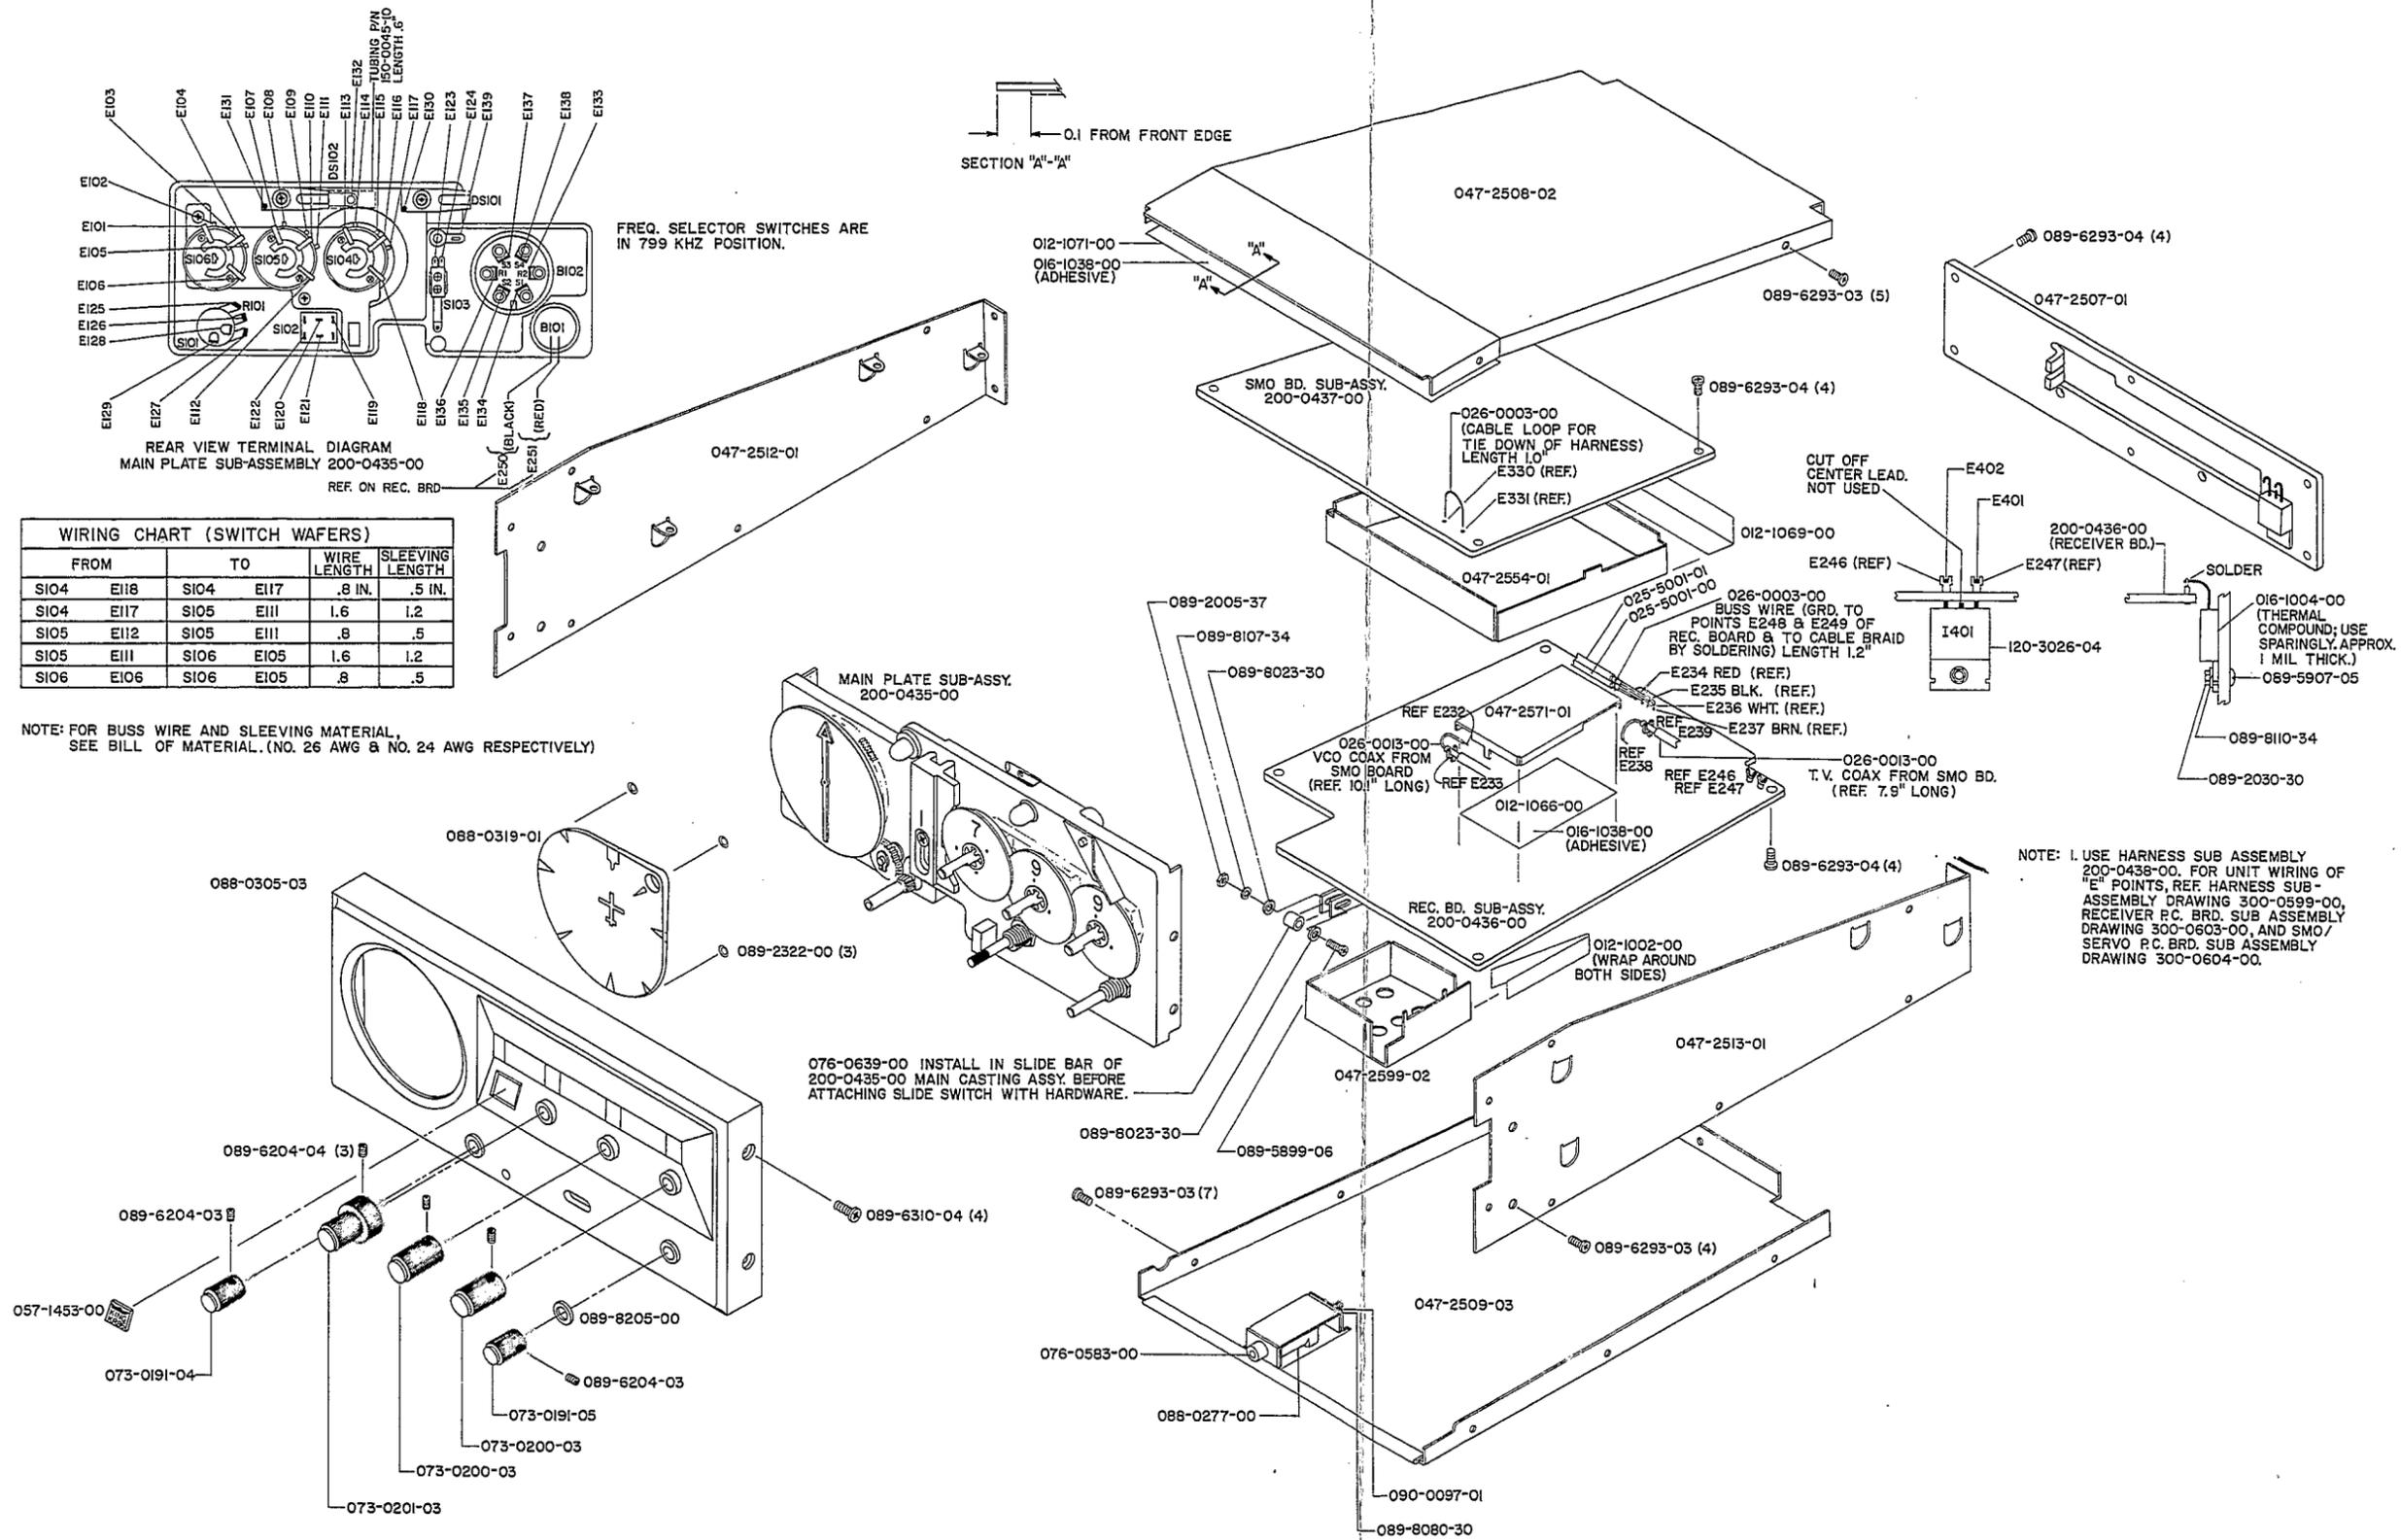

FIGURE 6-19 UNIT SUB-ASSEMBLY
6.3.4 DISASSEMBLY PROCEDURES (Figure 6-19)